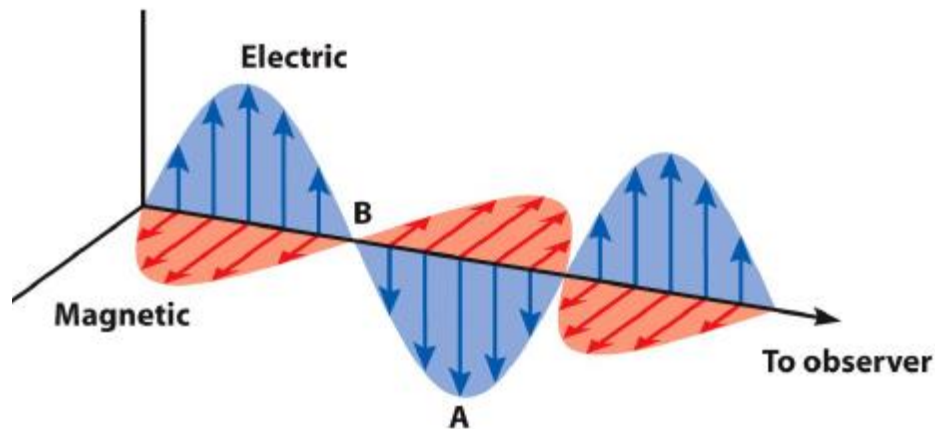

Fig. 1 Electromagnetic wave.
The electromagnetic (EM) spectrum is a classification of the Sun's radiation. Scientists have identified solar energy as a spectrum of many different wavelengths of electromagnetic rays. Waves of energy are called electromagnetic (EM) **because** they have oscillating electric and magnetic fields as shown in Fig.1. Scientists classify them by their frequency or wavelength, going from high to low frequency (short to long wavelength).